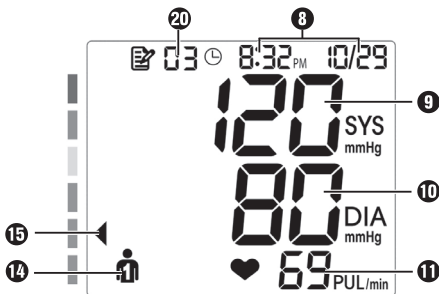

Fig. 1
- 4) Then press the Start/Stop button **2** **①** to confirm the user and start the reading.
- You can interrupt the reading at any time by pressing the Start/Stop button **2** **①**, and the cuff **23** will automatically deflate.
- When the reading has been completed successfully, the cuff **23** quickly deflates. The values for the reading appear in the display **1** as shown in Fig. 1: